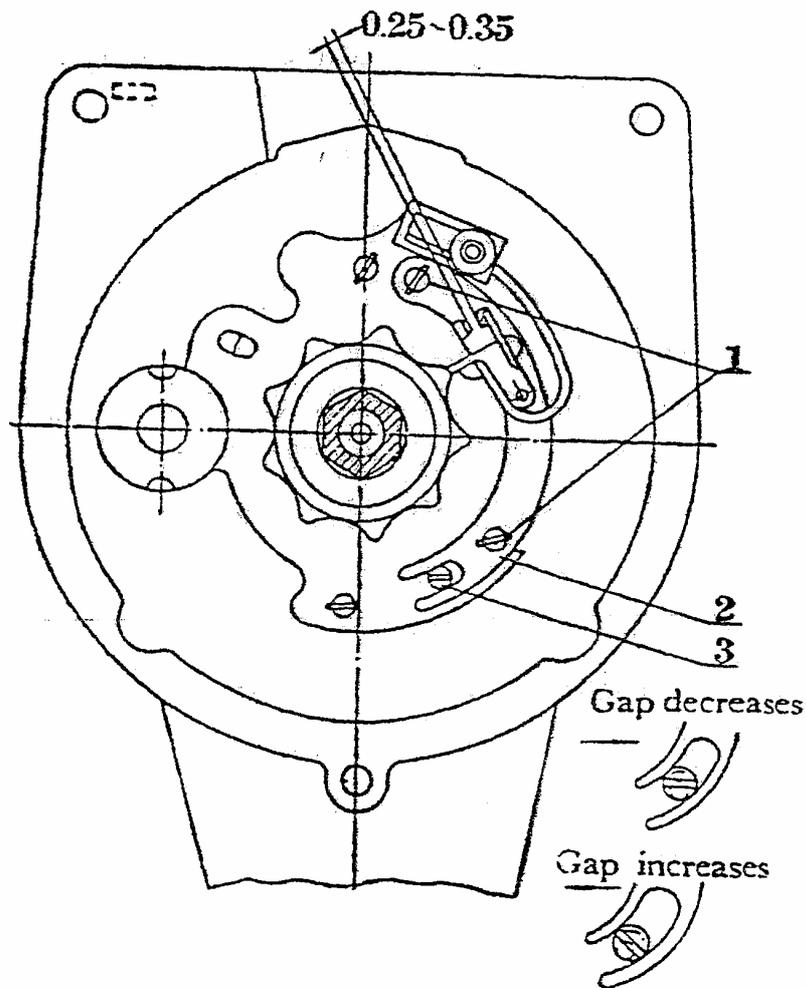

Fig. 8 Adjustment of gap at the breaker contact
a. Unscrew two set screws "1" on set-adjustable plate "2" (Fig. 8). Rotate eccentric screw "3". As the cam locates at the top position, regulate the gap between contacts to 0.25-0.35 mm. And then fix the set screw "1" for the adjusting plate and locked.